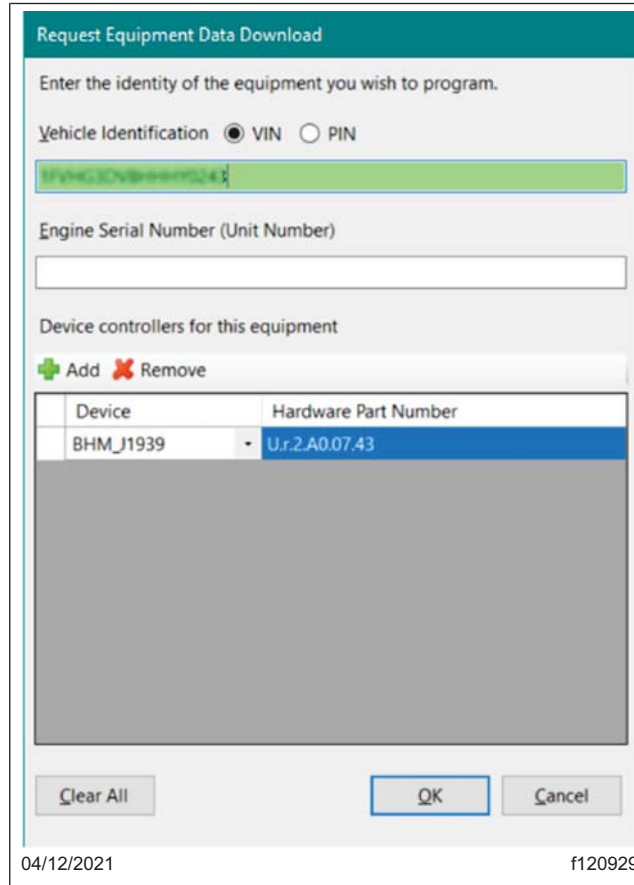

Fig. 3, Equipment Data Download Screen
Description of Revisions: *This bulletin replaces the version dated 11/11/2019. Figure 3 has been updated with a new hardware part number. A procedure was added to the data download process.*
7. Click Add. The "Request Equipment Data Download" form will appear. See Fig. 3.